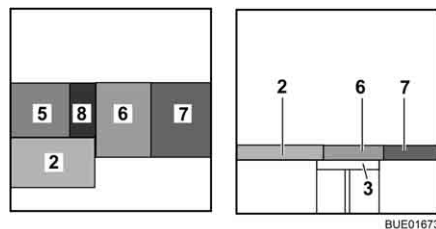

Fig. 143 After conversion
- Place the seat cushion (Fig. 143,7) in the centre.
- Place the back cushion (Fig. 143,6) between the seat cushion and the wall.